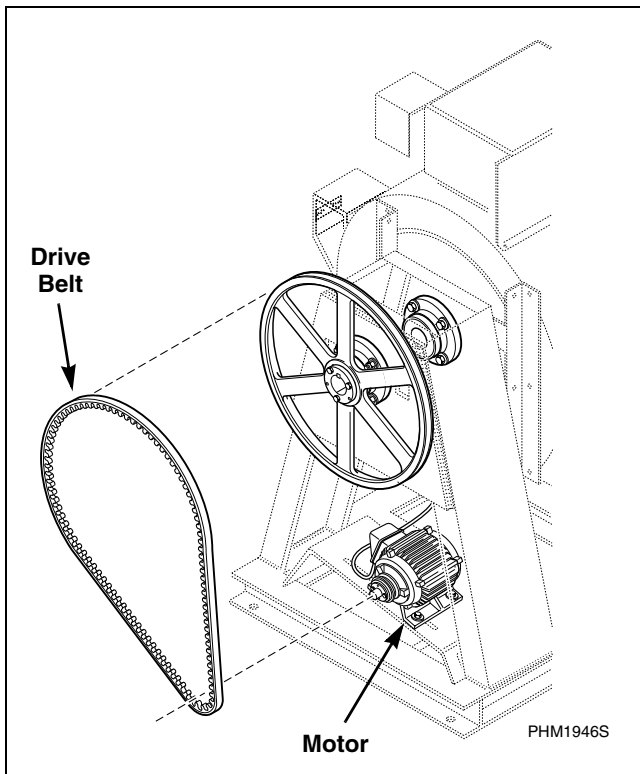

Figure 17
- c. Loosen the motor mounting bolts and slide the motor along the motor plate to relieve the tension on the drive belt. Refer to *Figure 17*.
- (1) Using a tension gauge, check the drive belt tension. Belt tension should be between 70 and 90 pounds ( $\pm 5$  pounds). Set the initial belt tension toward the high end of the range.
- (2) To adjust the drive belt tension, loosen the motor mounting bolts and slide the motor plate. Refer to *Figure 17*.